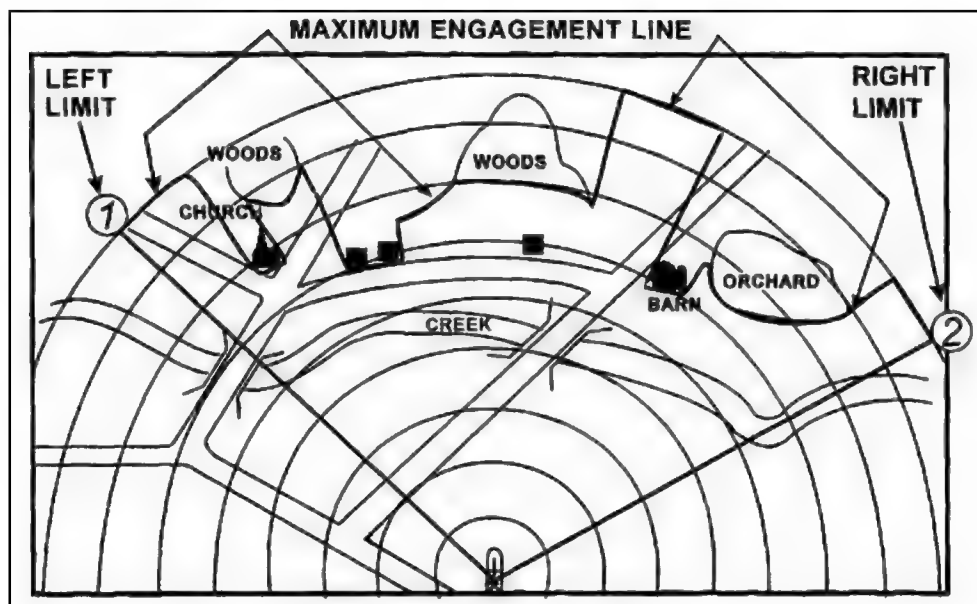

Figure B-6. Sector of fire and maximum engagement line.
c. **Left Limit and Right Limit.** Left and right limits are imaginary lines from the gunner's firing position to a designated point on the ground (Figure B-6). Use terrain features when possible to designate left and right limits. Other recognizable objects such as a building or other man-made structures can be used. The area between the left and right limits depicts the gunner's sector of fire or area of responsibility. Lines are drawn from the designated firing position to the MEL in the area of the designated limits. Number the left limit as *No. 1*, number the right limit *No. 2*, and place a circle around each number. *Record the azimuth and distance of each limit in the data section.*
d. **Maximum Engagement Line.** The MEL designates the maximum effective range of a weapon (Javelin) and the gunner's line-of-sight limitations due to the terrain in his given sector of fire (Figure B-6).
(1) If there are no limitations, draw the MEL along the last circle in the sector sketch section. The line should connect with the left and right limit labels.
(2) If there are limitations, starting at the left limit, draw the MEL in front of the limiting terrain features. The MEL should extend in front of and follow the limitations until it reaches the right limit.